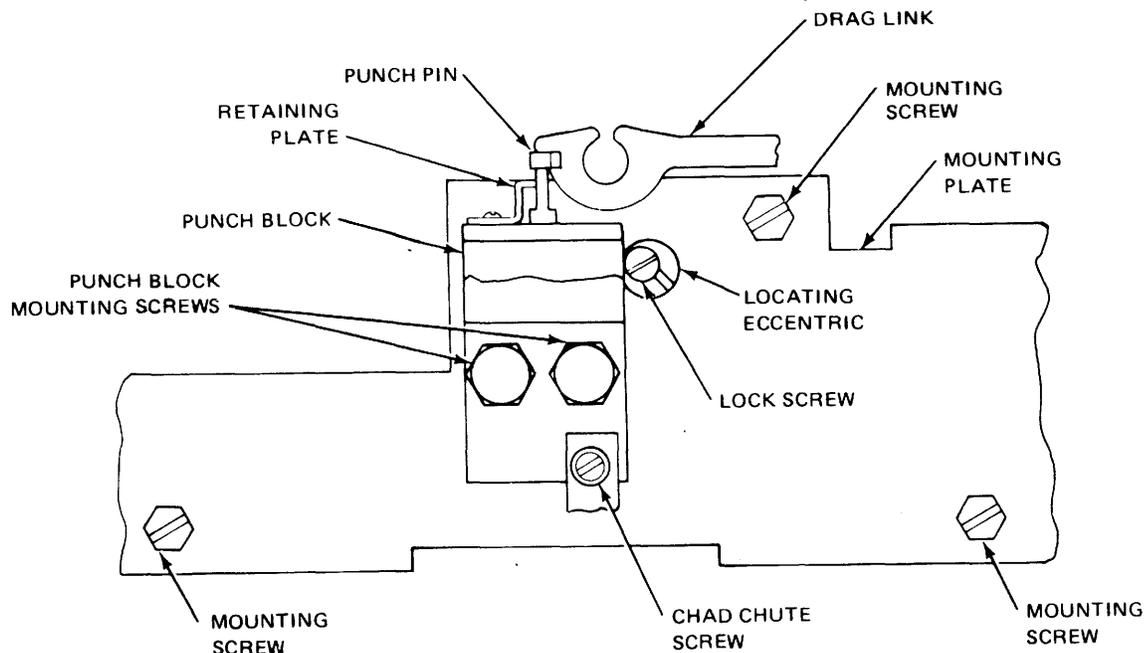

Figure 6-26. Punch Block Adjustment.
b. Loosen punch block mounting screws and locating eccentric lock screw (see figure 6-26).
it may be necessary to move the mounting plate down (see figure 6-26). If the mounting plate is removed, recheck adjustment of the punch block and tape guide.